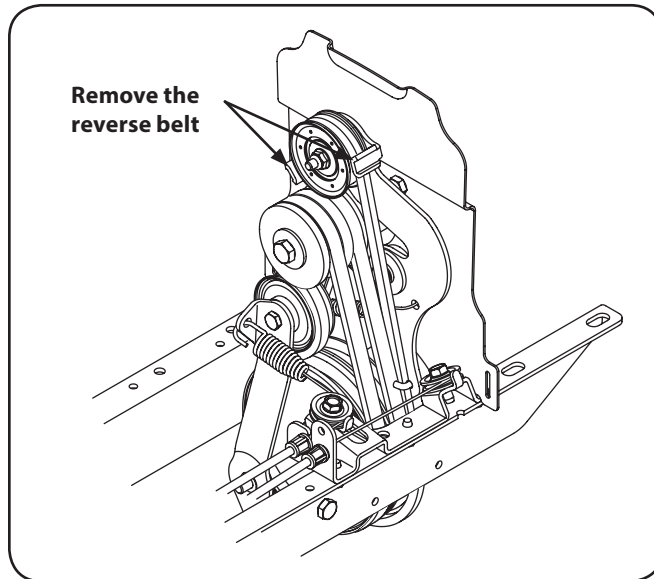

Figure 7-4
5. Remove the reverse belt from the idler pulley by working it off the pulley and under the belt keepers. See Figure 7-4.